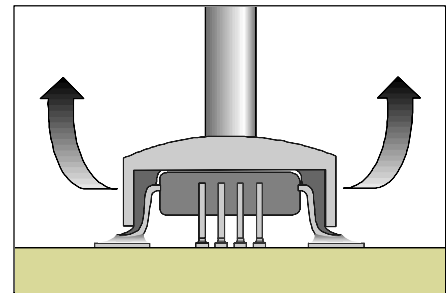

Figure 2: After solder has melted lift tip out and up.
2. Place the tip directly over the top of the component. The extra solder on the tip will melt all the solder joints. When the solder has melted slide the component out and up. (See Figure 2).